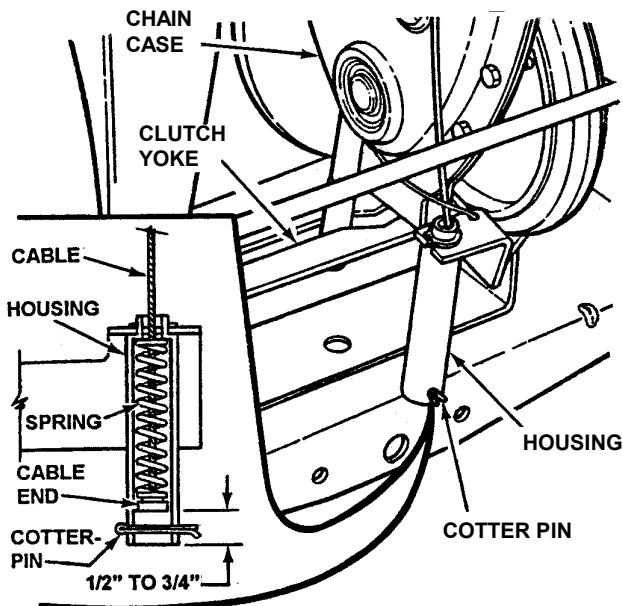

FIGURE 4.9
5. Measure the distance between end of clutch/brake cable and bottom of housing. Measurement should be no less than 1/2" and no greater than 3/4". See inset, Figure 4.9.
7. Adjust cable up or down using the jam-nuts to obtain a distance of 1/2" to 3/4" between end of clutch/brake cable and bottom of housing. See Figure 4.9.